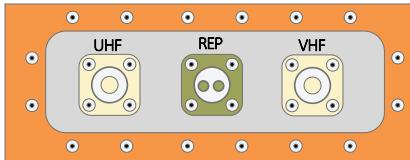

Figure 2:
1. Antenna Installation: (See Figure 2)